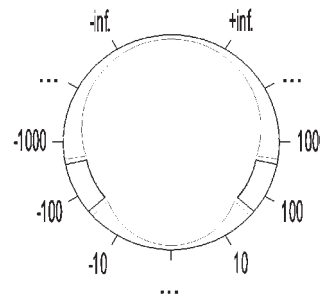
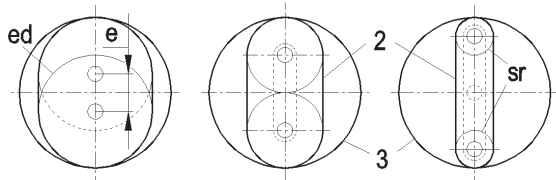

Fig.2. The usual and the aimed transmission ratio ranges
Fig. 3. Eccentric disk and spaced roller wave generators
As **fig.2** shows the original ratio range of a flexible epicyclic drive (FED) reducer is between 50 and 400. It also shows the aimed lower and upper ranges.
When omitting the gear teeth the only change is the improved elasticity of the elastic planet wheel. The ratio can not be less because of small elasticity of the flexible ball bearing. The ratio is a little bit greater than at the original gear drive due to slip. Changing the original elliptoidal cam wave generator by eccentric disk or spaced roller wave generator, it makes possible to enlarge the difference of contact circumferences, $c_3 - c_2$, consequently the ratio is decreased, due to formula (1). The ratio and the theoretical lower limit are explained by **fig.3**,
The elastic epicyclic wheel, 2 also can be made of elastomer. Fig. 3. shows such a drive where the excentricity of the disks or the distance of the rollers should be adjusted to assure the proper traction effect between the elements 2 and 3. Both the creep and the local elongation has got a large role in the contact regions. These effects can become so large that the original rate of circumferences of $c_3 > c_2$ will be changed. The greater the tensioning of the elastic wheel the greater the transmission ratio and it become infinit. Additional radial offset of the rollers causes an opposite revolution at the output shaft, so as it can be followed in Fig. 2. and 5.